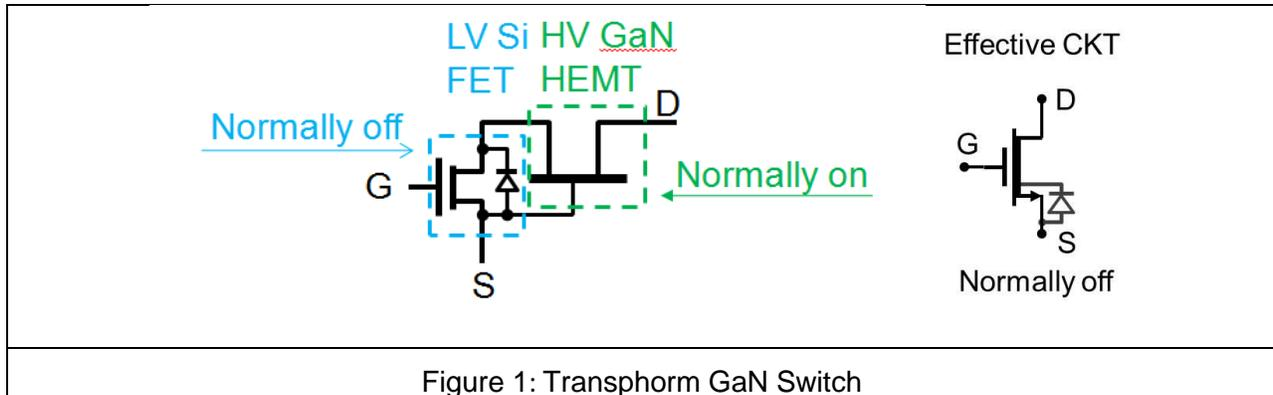

Figure 1: Transphorm GaN Switch
Transphorm Gallium Nitride (GaN) Power Switches comprise a normally-off low voltage (LV) Silicon (Si) MOSFET and a normally-on high voltage GaN High Electron Mobility Transistor (HEMT) in cascode configuration (Figure 1).
To better understand the operation of the GaN switch (Fig. 1), three modes of operation can be distinguished: